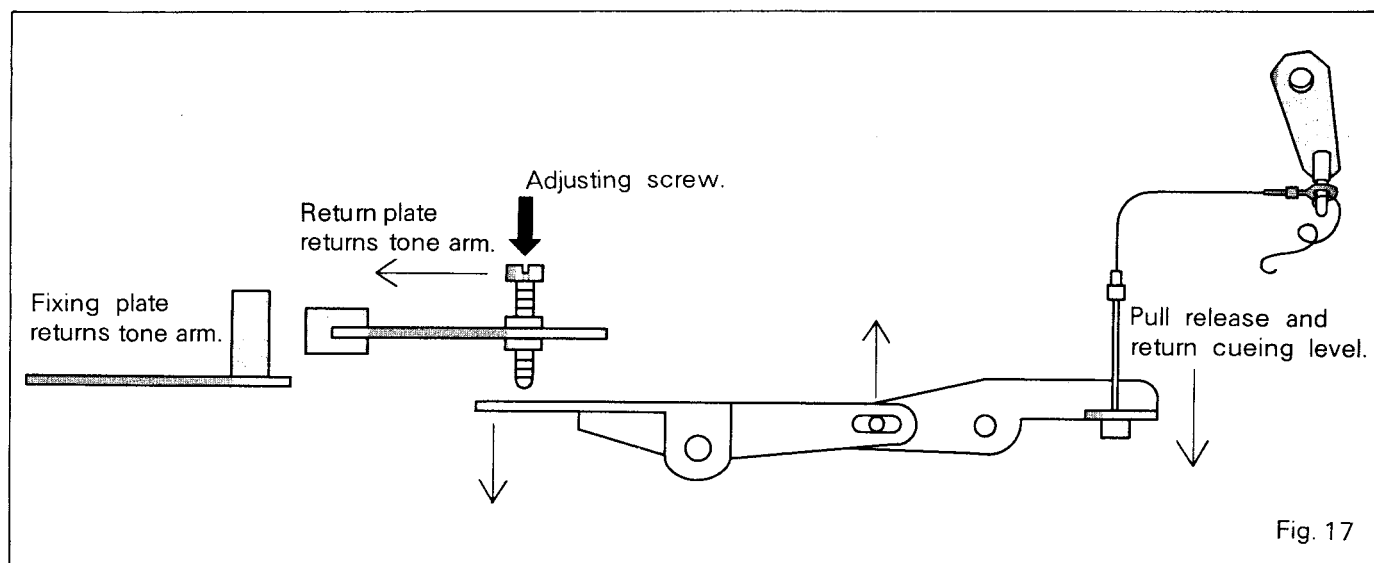

Fig. 17
- (1) Remove the bottom base from the set and put the set on a stable table.
- (2) Fully loosen the screw in Fig. 17.
- (3) Adjust the screw in Fig. 17 so that the cueing lever returns at the same time as the tone arm when the speed change lever is set to 33 rpm and auto return operation is effected.